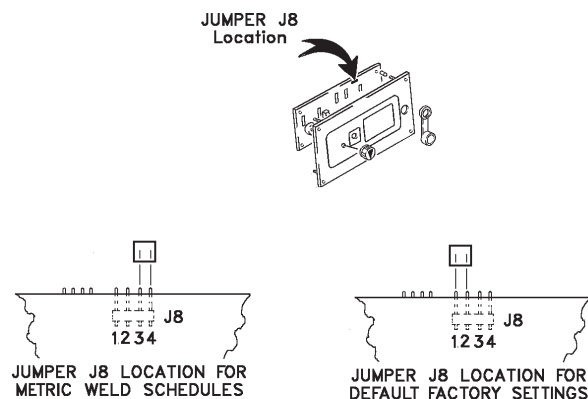

Figure 4-6
- 3) Move jumper J8 (Figures 4-6) to pins 3 and 4.